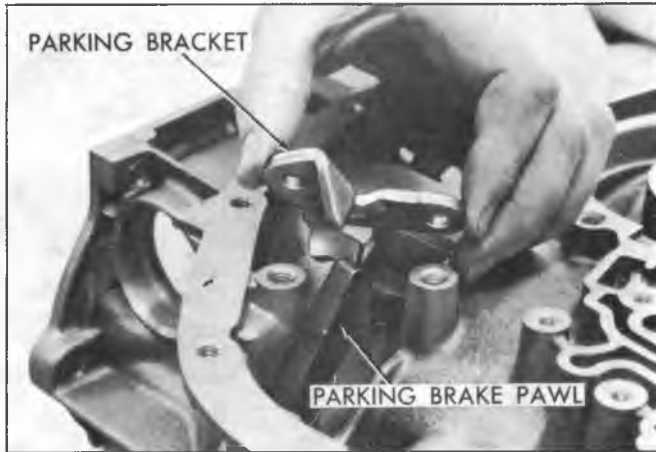

Fig. 26T--Removing Parking Bracket
- e. Remove attaching screws and parking bracket (fig. 26T).